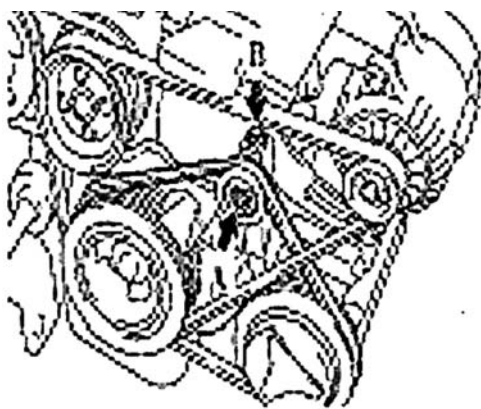

Figure 5
2. Remove generator V-belt See (Figure 5)